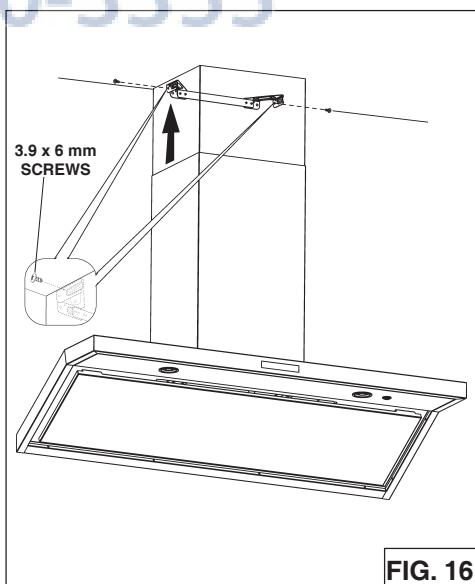

FIG. 16
7. Secure upper flue to flue mounting bracket with (2) 3.9 x 6 mm screws (Fig.16).